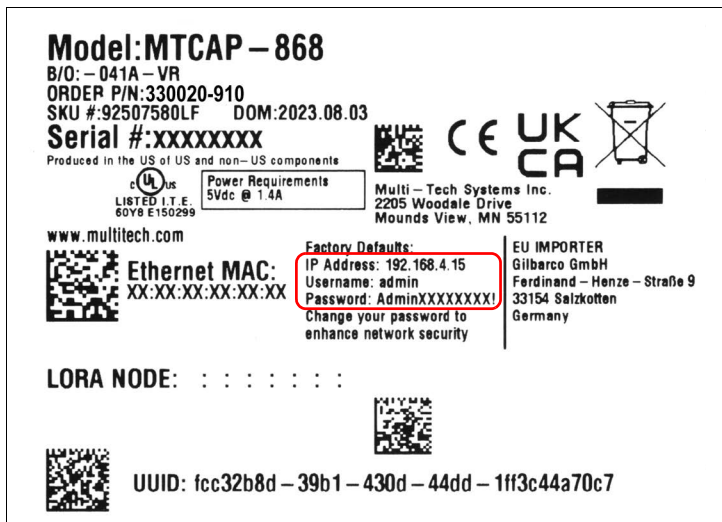

Figure 4. Example Gateway Label – IP Address, Username, and Password
1. Locate the label on the rear of the unit and note the Factory Default IP Address, Username, and Password (encircled in red on the example label in Figure 4). The Xs in the Password refer to the Gateway's serial number. For example, if the Gateway serial number is 12345678, then its default Password is **Admin12345678!**.